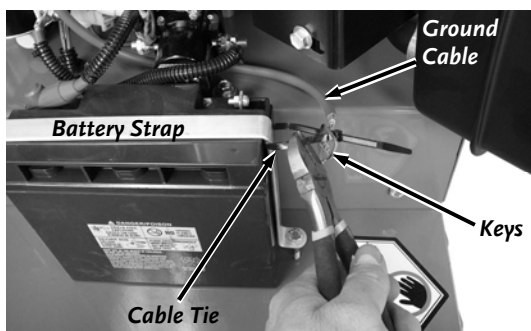

Figure 2
7. **Pro and Pro-XL Models:** Cut the Cable Tie that is securing the Keys and Ground Cable to the Battery Strap (**Figure 2**).